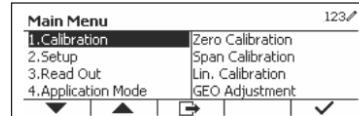

Figure 8
1. Long press the **User Menu** button to enter Main Menu. (See Figure 8)